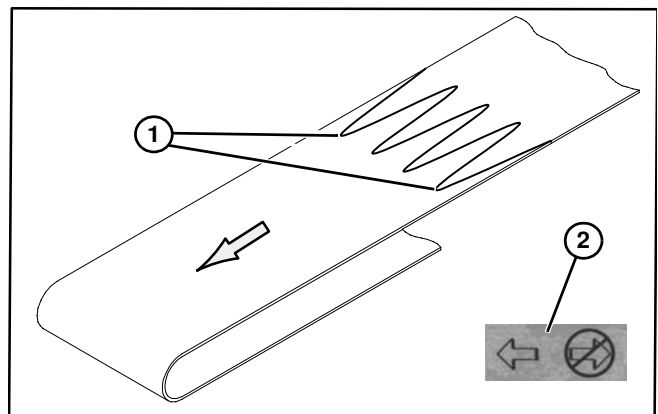

Figure 10
3. Orient belt so splice outer fingers (**Figure 10, item 1**) point in the direction of belt travel as identified by the conveyor directional label (**Figure 10, item 2**).